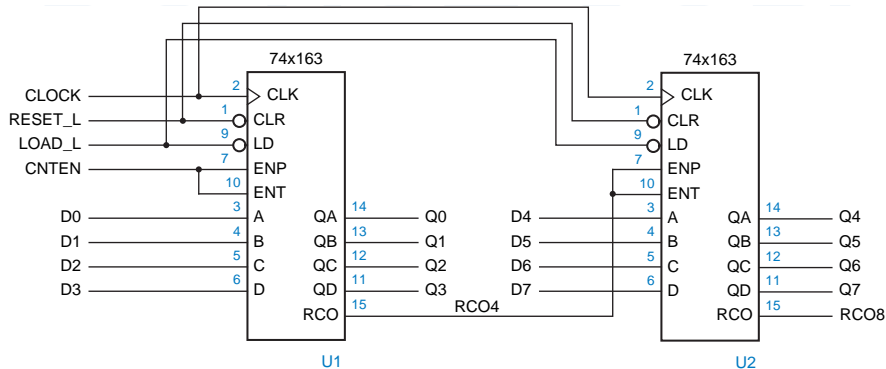

Figure 32: General cascading connections for 74x163-based counters.
- A binary counter with a modulus greater than 16 can be built by cascading 74x163s as in Fig. 32
- In Fig. 32, RCO4 output is asserted if and only if low-order '163 is in state 15 *and* CNTEN, master count-enable, is asserted
- Scheme of Fig. 32 can be extended to build a counter with any desired number of bits